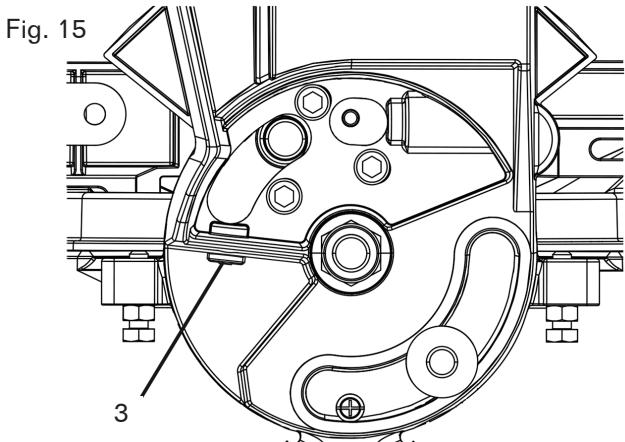

Fig. 15
5. If the blade is not 33.9° to the miter table, tilt the cutting arm to the left, turn the hex bolt (3) at the rear of the saw in or out with a 3 mm hex wrench until the blade is 33.9° to the table. (Fig. 15)